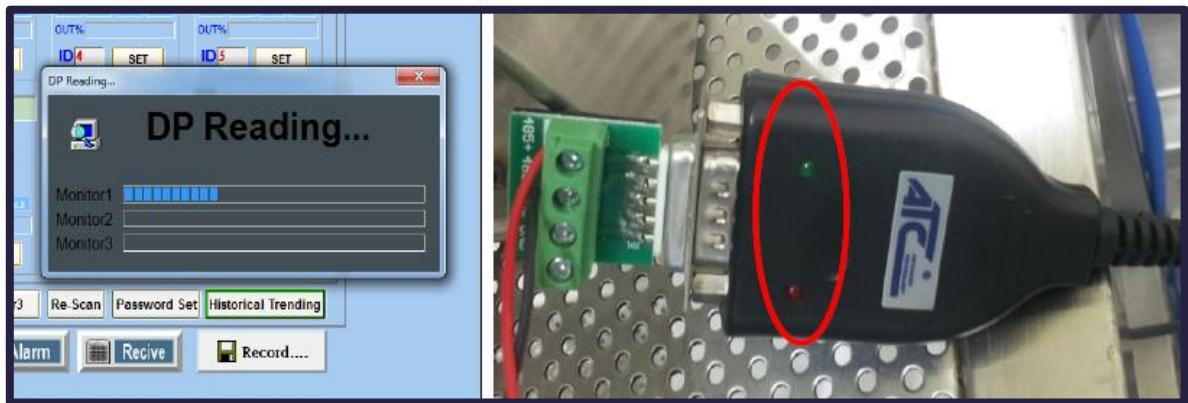

Figure. 18
7. The pop up window with “DP Reading” will appear and Red and Green LEDs on the “ATC-820 USB <=> RS-485 Interface converter” will glow. Ensure that the USB of the converter is connected to the CPU of the computer system and “Set Up” has been carried out (Figure. 18).